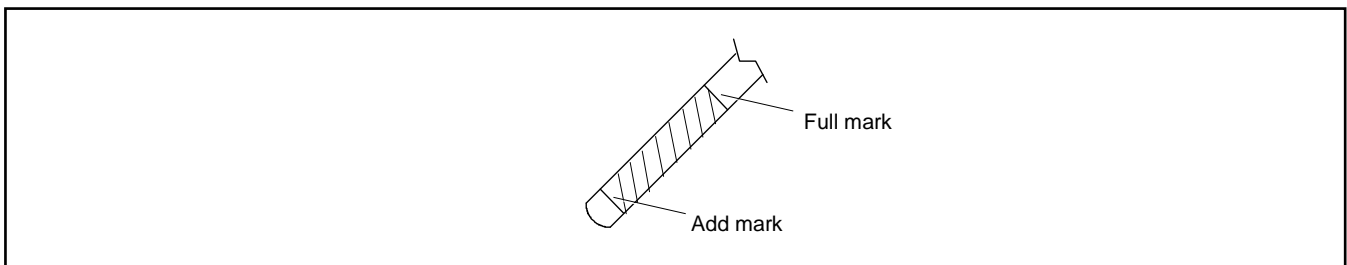

Figure 11 Oil Dipstick
5. Pull out the dipstick again to check the oil level. The oil level should be maintained between the Full and Add marks. See Figure 11.